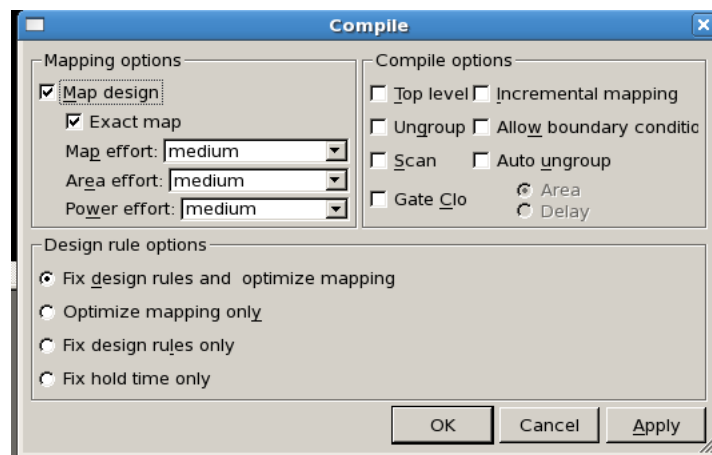

Fig. 9: Design optimization
1. Click Design \Rightarrow Compile Design (see Fig. 9)